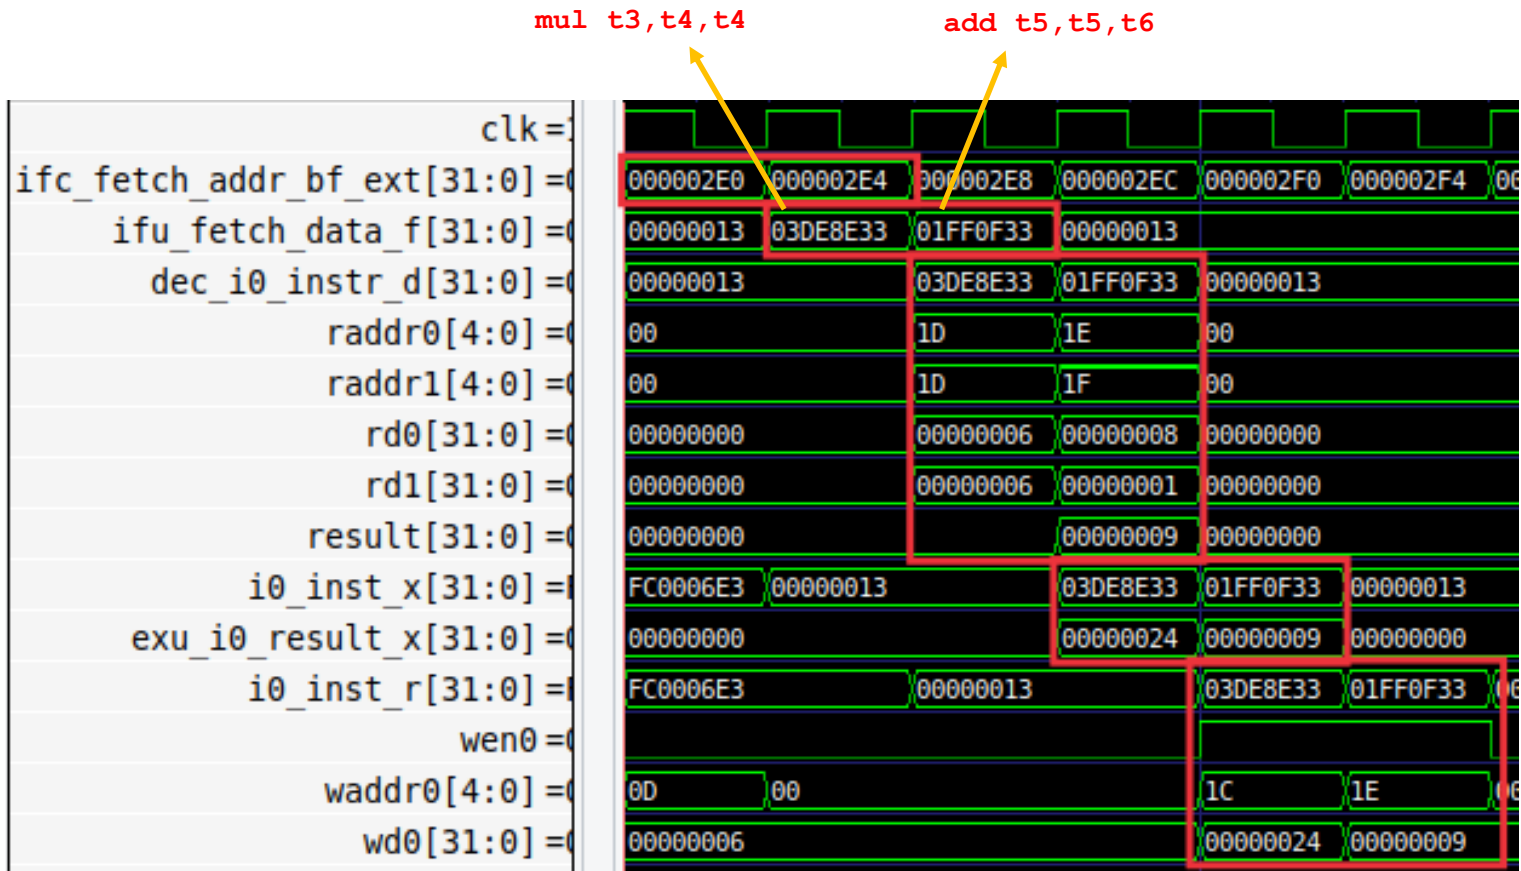

Figure 10. Simulation of the 4 stages of the VeeR EL2 core
Figure 10 shows RVfpgaEL2-Trace waveforms of the processor signals while executing the program in Figure 9. The following signals are included in the figure to trace the instructions as they progress through the pipeline.
TASK: Replicate the simulation from Figure 10 on your own computer by following the steps described in detail in the GSG.
Analyse the waveform from Figure 10 at the same time as the diagrams for the core shown in previous sections. The figures include some signals associated with each of the pipeline stages. The values highlighted in red correspond to the two instructions (*mul* and *add*) as they flow through the pipeline.
- **First cycle of Figure 10:**
- **Second cycle of Figure 10:**
- **Third cycle of Figure 10:**
- **Fourth cycle of Figure 10:**
- **Fifth cycle of Figure 10:**
- **Sixth cycle of Figure 10:**
TASK: Simulate the previous program on RVfpgaEL2-Pipeline in order to perform a similar analysis to the one just carried out in the previous text and in Figure 10. Remember that you must include the control instruction at the point where you want the simulator to stop execution (and zero, t4, t5).
For example, this is the VeeR EL2 pipeline at the fourth cycle shown in Figure 10. Note that the values are shown in decimal here (thus, the result of the multiplication is 36) whereas in Figure 10 they are shown in hexadecimal (thus, the result of the multiplication is 0x24).